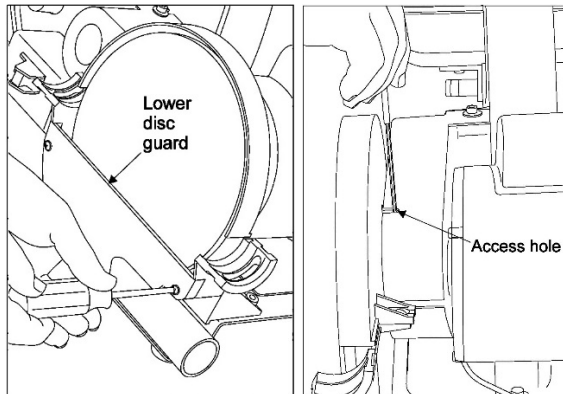

Figure 19:
3. Remove lower disc guard (see Figure 19).